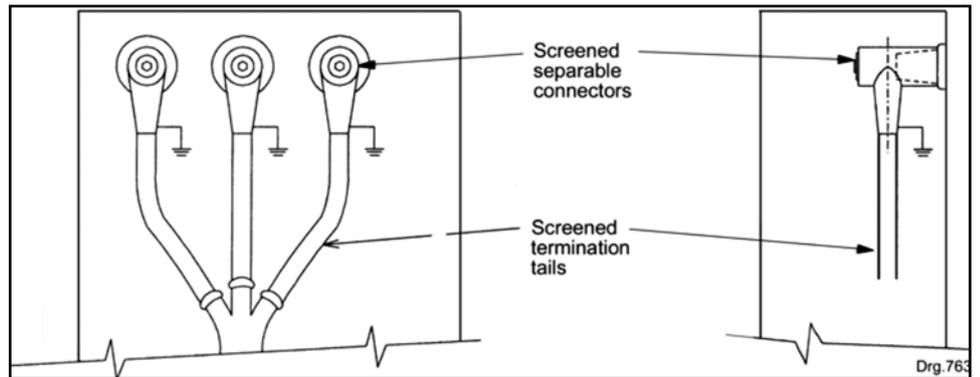

Figure 7: Screened separable connector termination – outside cone (type 4)
- Type 4 termination - screened separable connector terminations – outside cone, figure 7 and;